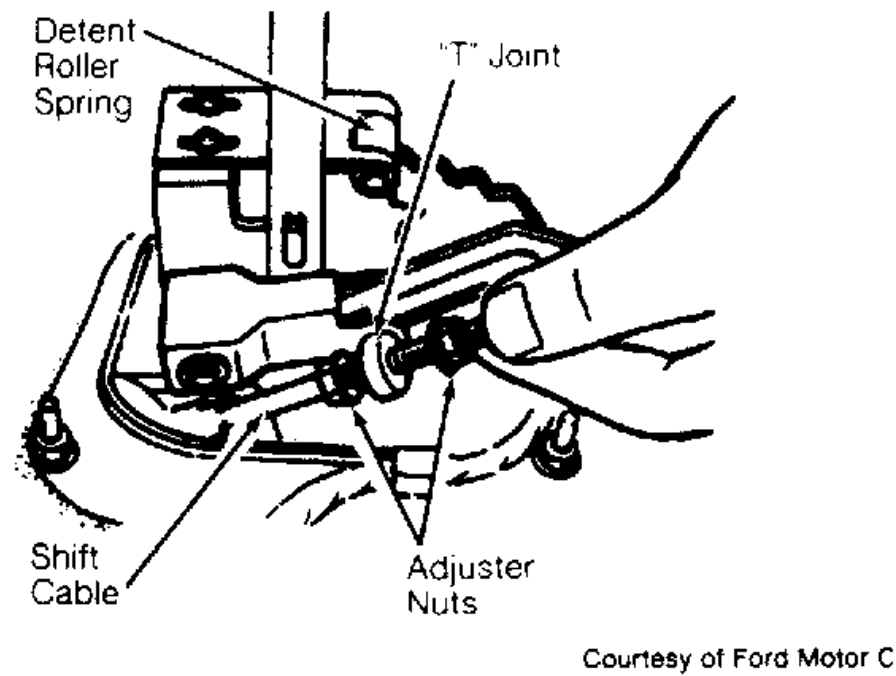

Fig. 1: Adjusting Shift Cable
2. Loosen shift cable adjuster nuts until they reach end of cable threads. See Fig. 1. Place shift lever in Park. Tighten lower adjustment nut until it lightly touches "T" joint, then tighten upper adjustment nut to 80-97 INCH lbs. (9-11 N.m).